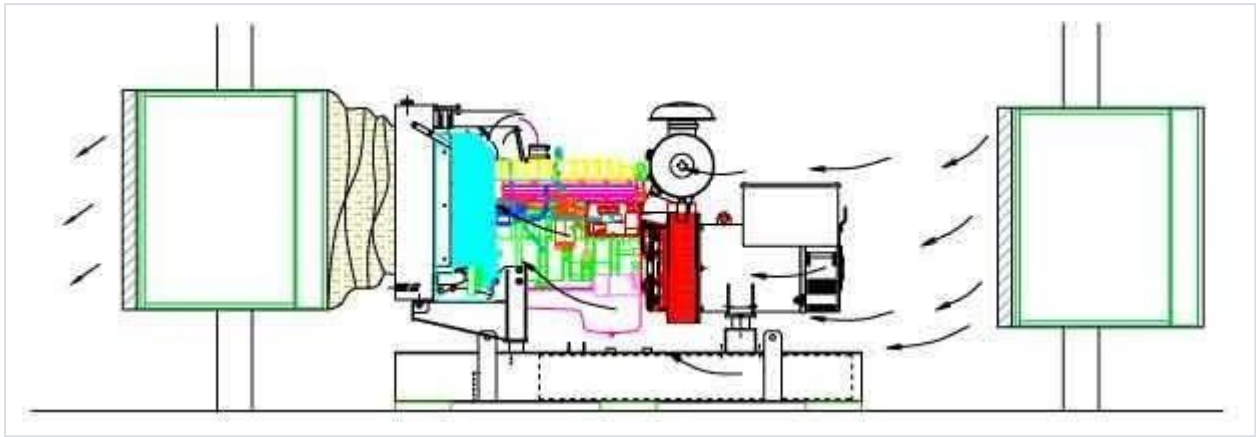

FIG. 5 — Airflow through the plant room.
- As shown in FIG. 5, cool inlet air is drawn in across the AC alternator, which takes its own cooling air from this flow, and then through the engine air intake filter and the engine. The radiator fan then forces the air out through the radiator matrix to the outside. There must be no obstruction to the airflow — baffles and similar — immediately in front of the radiator discharge opening.